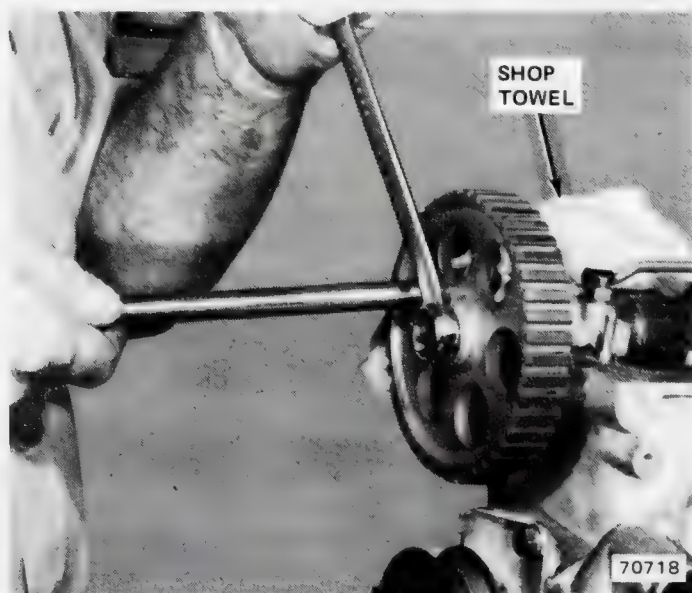

Fig. 1B-12 Removing Camshaft Sprocket
- (1) Remove cam drive belt as outlined under Drive Belt Replacement. It is not necessary to remove belt completely from crankshaft.
- (2) Insert suitable tool wrapped in shop towel to prevent sprocket from turning (fig. 1B-12).